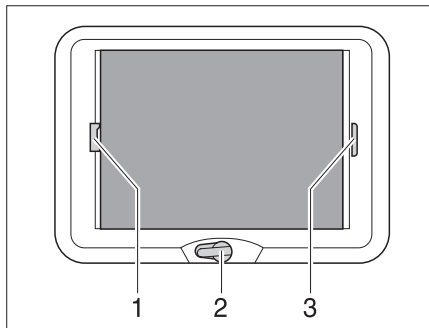

Fig. 51 Wind-up skylight
- Rotate the hand crank (Fig. 51,2) until a resistance can be felt (max. opening angle 70°).
- Pull the handle of the Roman shade (Fig. 51,3) and release in the desired position. The Roman shade will stay in that position.
- Pull insect screen at the handle (Fig. 51,1) to the opposite handle of the Roman shade (Fig. 51,3) and allow to engage.
- Press the handle of the insect screen (Fig. 51,1) at the back upwards and detach the insect screen from the Roman shade (Fig. 51,3).